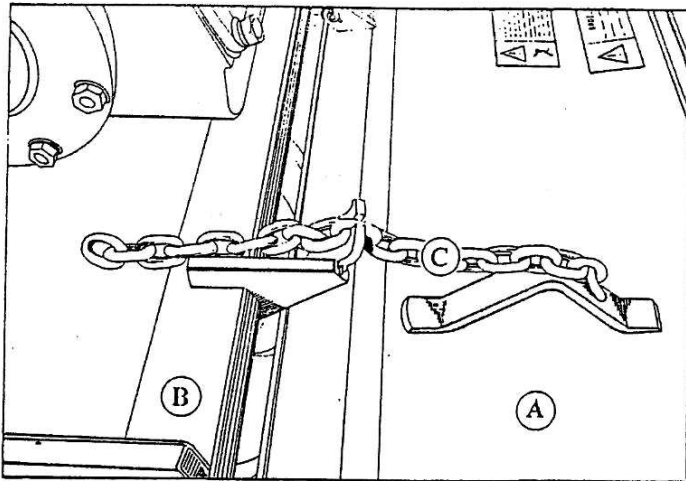

Figure 17. Adjustable coupler
Besides protecting the driver, the coupler has other purposes, as well. The coupler (A) is hung on the top guard (B) on the rear mower side (see Fig. 17) and has a bracket with a chain (C, Fig. 17). This chain is used to adjust the coupler height.